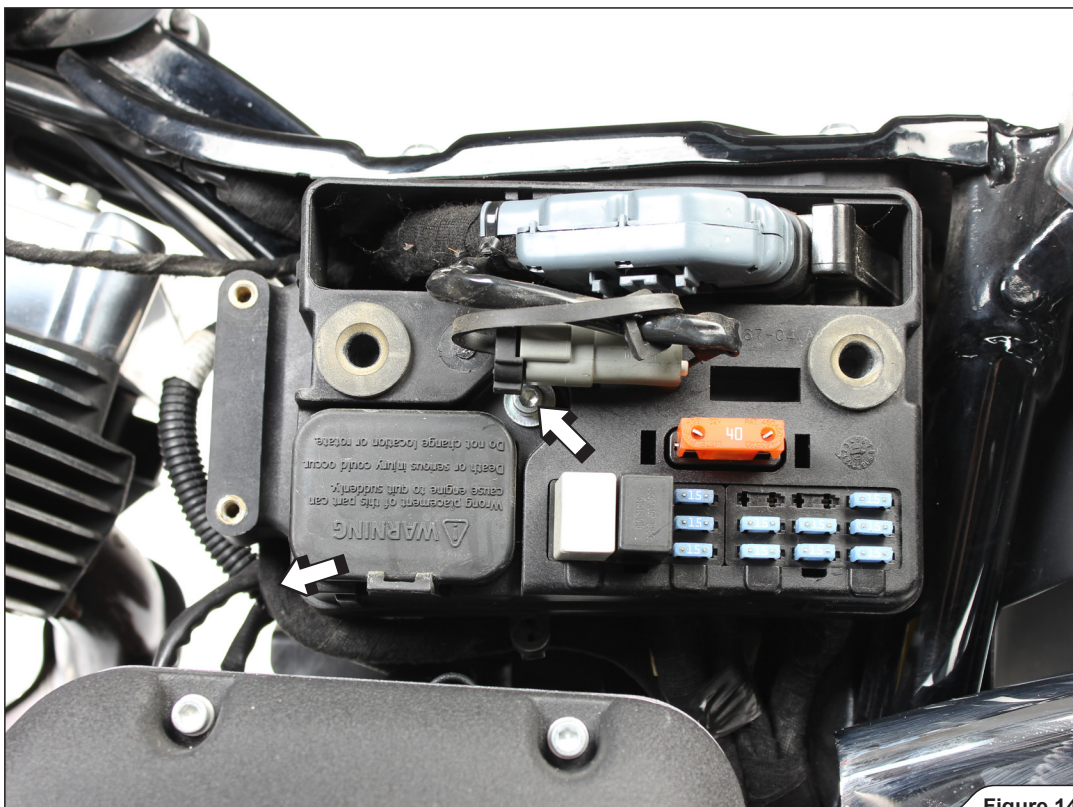

Figure 14
11. Unscrew marked bolt and partially remove fuse box, as shown (Figure 14, 15).